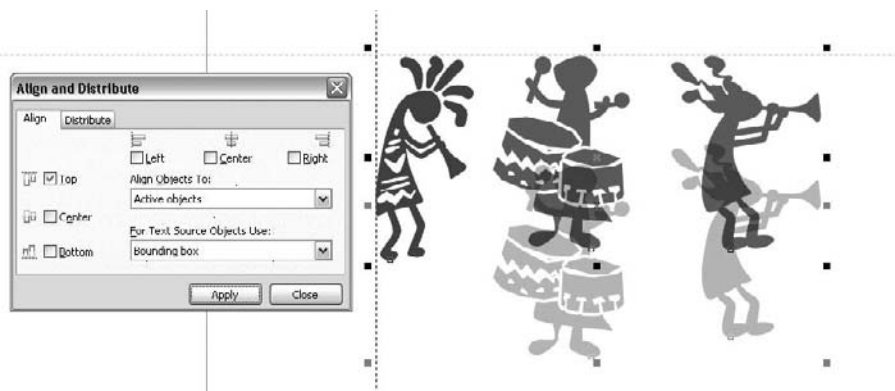

FIGURE 12-4 These objects were aligned horizontally using the Top option.
- **Horizontal Alignment** When aligning objects horizontally, you can choose the Top, Center, or Bottom portions of your selected objects. Only one of these three options can be selected at any one time. Again, the alignment symbols accompanying the options may help when deciding which to use. Figure 12-4 shows the results of the horizontal alignment of a selection of objects. While using either the Top or Bottom alignment option, the furthest object from the center of your selection determines the point at which the objects align.